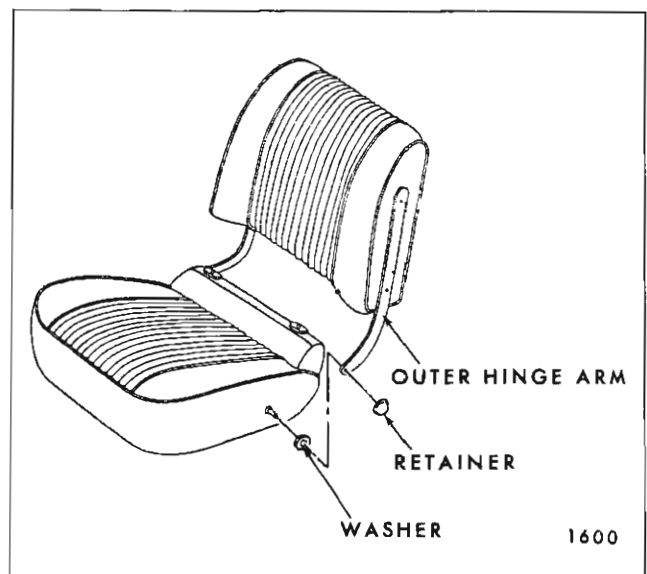

Fig. 1H19—Bucket Seat Back Removal - "A" Styles
1. Using a flat-bladed tool, carefully remove retainer from outer hinge pin (Fig. 1H19).
is installed over inner and outer hinge pins (Fig. 1H19). If retainers are damaged, replace retainers using new parts.